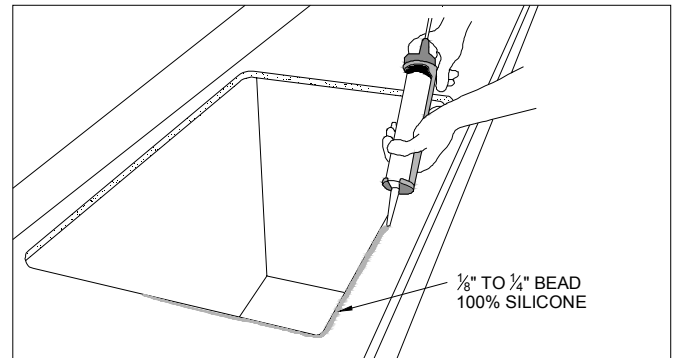

Figure 2A
- Apply an $\frac{1}{8}$ " to $\frac{1}{4}$ " bead of 100% silicone around the entire cutout approximately $\frac{1}{4}$ " from the edge of the cutout. (FIG. 2A)